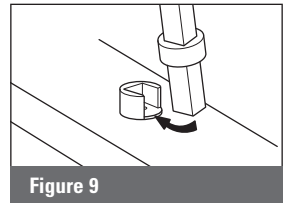

Figure 9
**b.** Insert bottom end of baluster into slotted opening of bottom connector (B1) and slide until the baluster completely sits inside the connector. Slide connector sleeve down to cover bottom connector. Twist connector sleeve until firmly secured. (Figure 9)